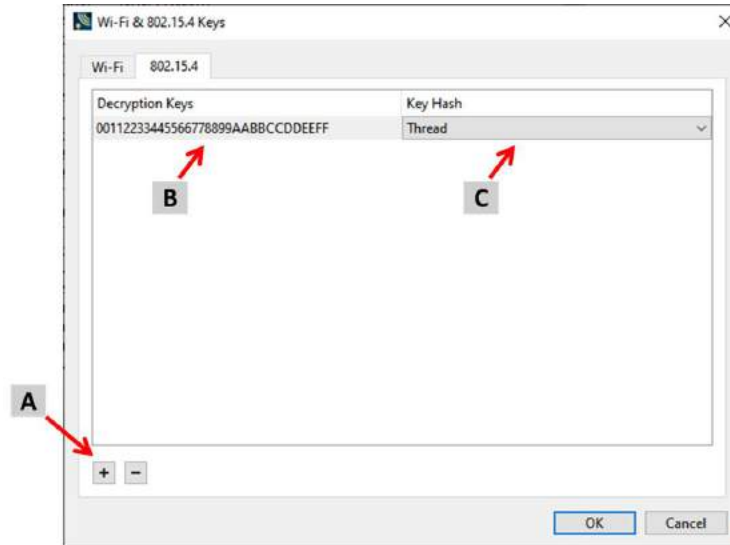

Figure 3.96 - 802.15.4 security configuration tab. (A) Add a new key. (B) key value text box. (C) Key hash type.
Once the window is open ( Figure 3.96 - ) select the 802.15.4 tab and to add a key:
1. Select add a new key ( Figure 3.96 - )
1. Enter the key into the key value text box ( Figure 3.96 - ).
1. Select the key hash type ( Figure 3.96 - ). Currently the choices are "No Hash" and "Thread". The Thread hash type should be selected for the Thread protocol.